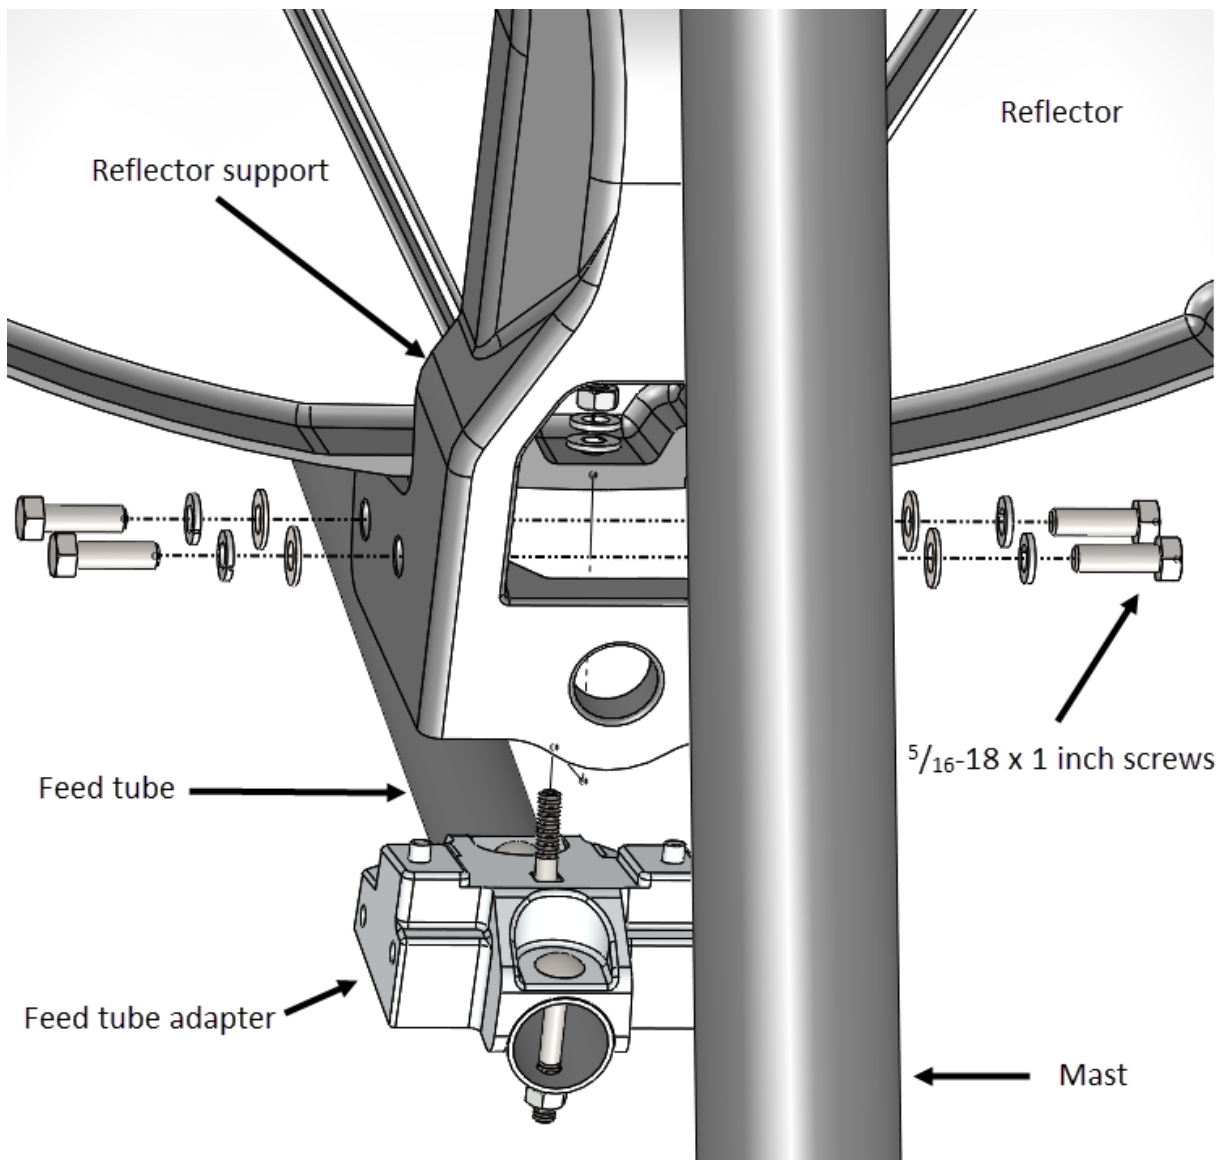

Figure 13: Securing the feed tube adapter
3. Swing the feed support assembly upward and use a  $\frac{1}{4}$  inch flat washer, lock washer, and hex nut to secure it to the reflector. See Figure 13 on page 32.
4. Attach the reflector support to the feed tube adapter using four  $\frac{5}{16}$ -18 x 1 inch screws, four  $\frac{5}{16}$  inch flat washers, and four  $\frac{5}{16}$  inch lock washers. See Figure 13.